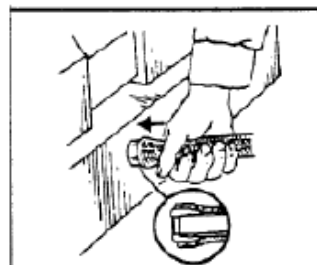

Figure 5
7. With the nipple held in the vise, push the hose and the sleeve onto the nipple until the sleeve bottoms. Remove the hose and make sure the Teflon tube is still bottomed against the shoulder of the sleeve and the sleeve is still square. (**Figure 5**)